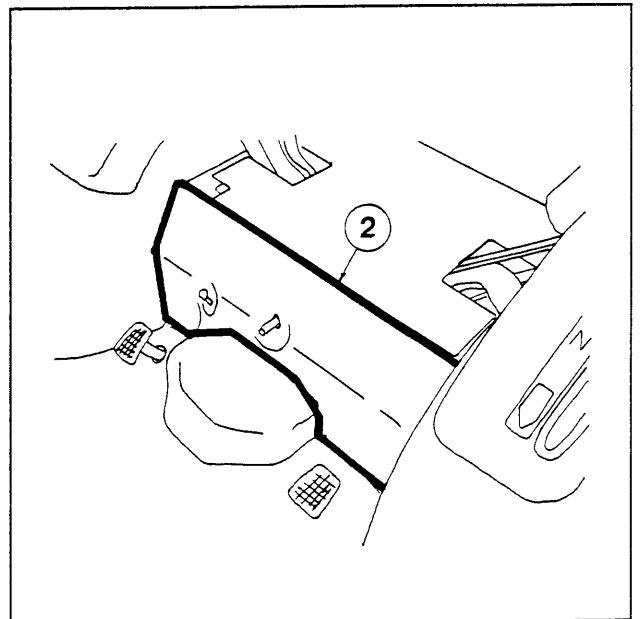

Figure 2
4. Take the 11 1/2"x19" piece of upholstery (2) and position it against the front seat panel. Line up the top edges of the upholstery and front seat panel. Cut all necessary openings for controls and levers. Glue the upholstery to the panel. (see Figure 2)
5. Unbolt the factory fender control shields. Take one of the 12"x39" pieces of upholstery (3) and position it against the left fender under the controls, with the grey cloth towards you. Line up the outside edges of the upholstery